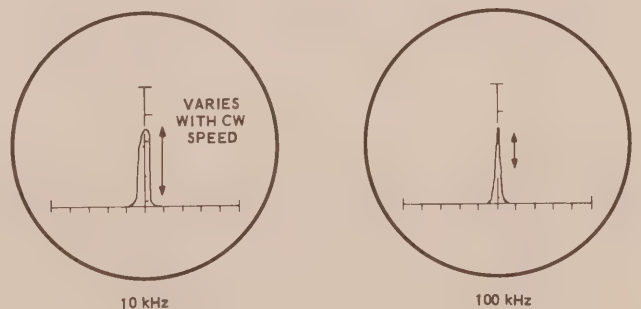

Figure 30
**Figure 30 - CW:** The pip of a CW signal will appear each time the transmitter is keyed. In the event of high speed CW, certain characters will not appear on the screen. This is due to the relatively slower sampling rate of the reactance modulator. In other words, a fast "dit" will appear in the receiver passband and disappear faster than all the signals in the passband are being sampled.